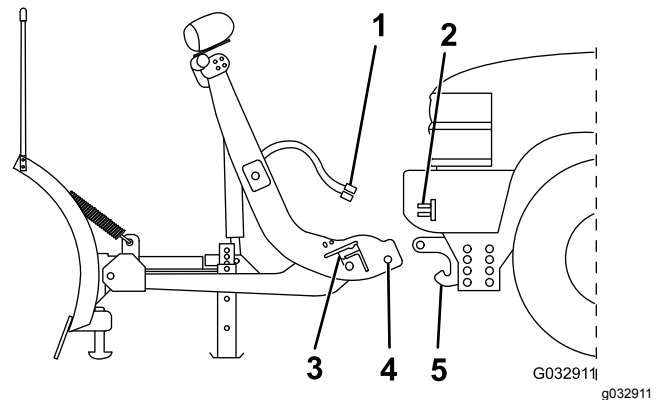

Figure 34
2. Line up the vehicle with the snowplow and slowly drive forward until the lower pin contacts the push-beam pin receiver (Figure 34).
4. Remove the electrical-plug dust-covers and connect the plow wire harness to the vehicle wire harness (Figure 34).